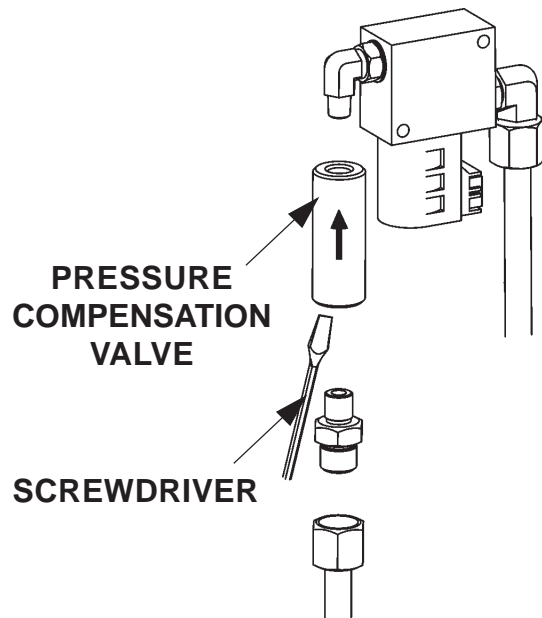

FIG. 4B
8. Remove Pressure Compensation Valve (**FIG. 4B**) located at the top of each Column. Check if the Pressure Compensation Valves are contaminated. Disassemble, try to move plunger with small screwdriver, and then clean each valve as shown in **FIG. 4B**. Re-install or replace each Valve if necessary.